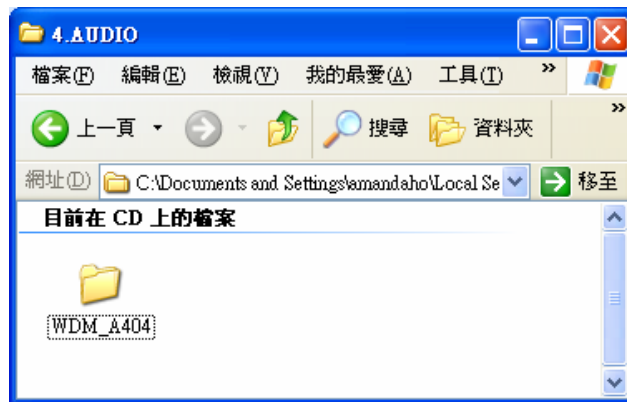

Figure 7-15: Audio Driver Options
Step 3: The screen in **Figure 7-15** appears. Double click the “WDM_A404” folder.